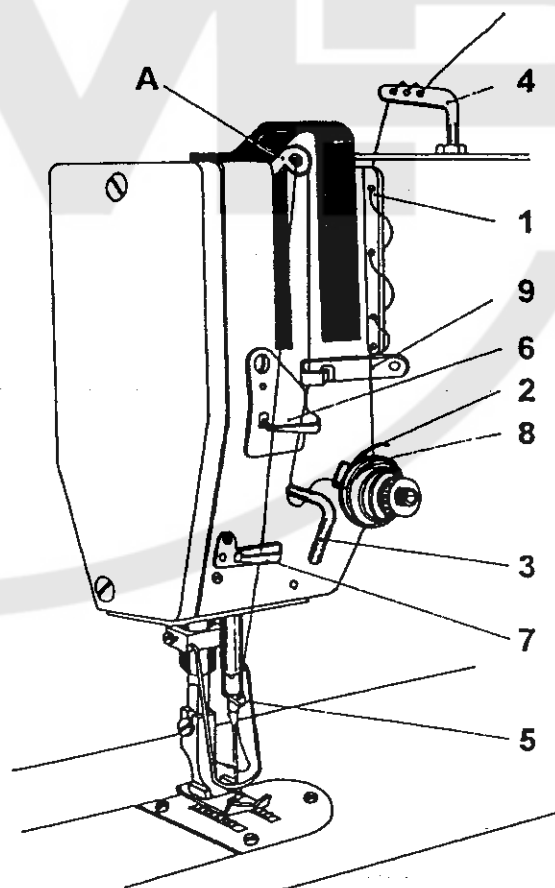

Fig. 5
8. To thread the upper thread (Fig. 5)